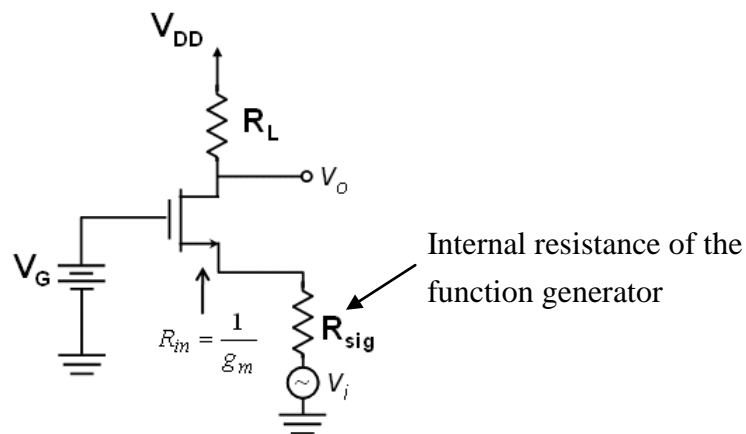

Fig. 4: Schematic of the common-gate amplifier.
1. Build a common-gate amplifier (Fig. 4) with the transistor without body effect (node 6-7-8) on your breadboard. Use the load resistor that you obtained in A-1 for the common-source amplifier. Apply a gate DC bias voltage of 2.0 V and V_{DD} of 5.0 V. Apply a small signal v_i at the source of the transistor and measure the mid-band small-signal gain v_o/v_i . Please also write down the previous common-source amplifier gain for comparison.